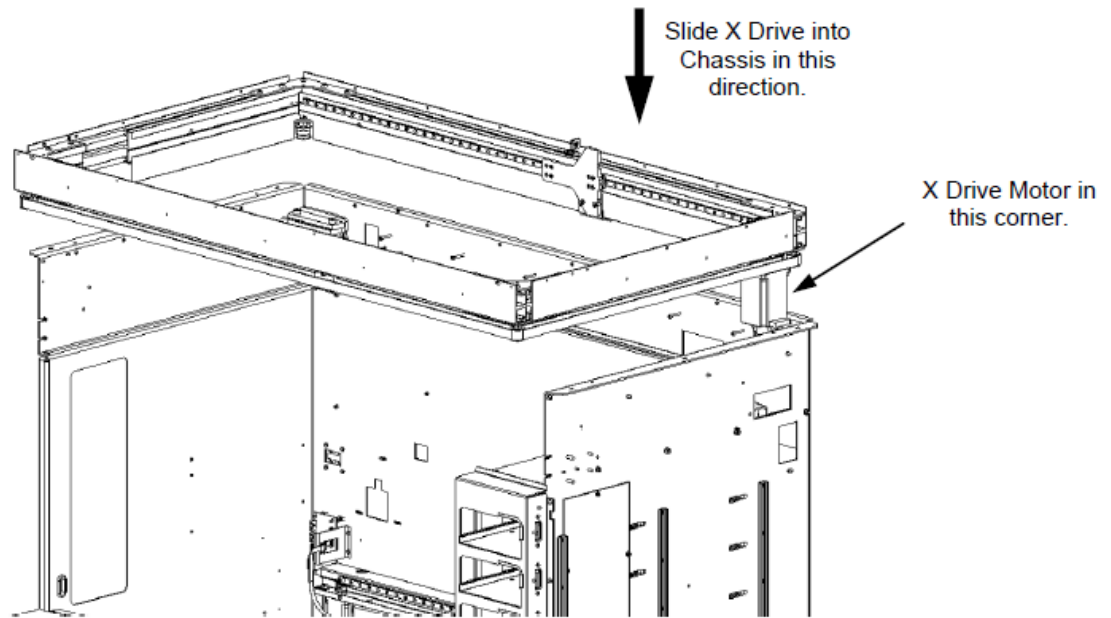

Figure X-5: Removing the X Drive
5. Remove the screws that attach the X drive to the chassis (Figure X-5).